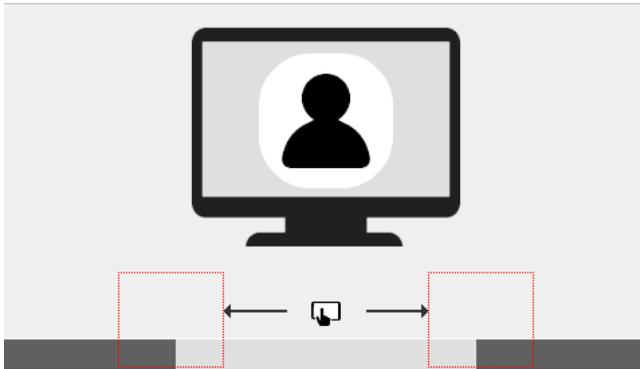

Fig. 5-11: The device displays this lock screen when remote operation is active
- When a remote operation panel is active, the local user can cancel the remote access at any time by pressing left and right function key simultaneously. (⇒ Fig. 5-11, p. 59)
(no icon)	A lock screen is displayed, hiding the actual device display. No operation is possible with one exception: The local user can cancel the remote access by pressing the left and right function key simultaneously (⇒ Fig. 5-11 , p. 59).